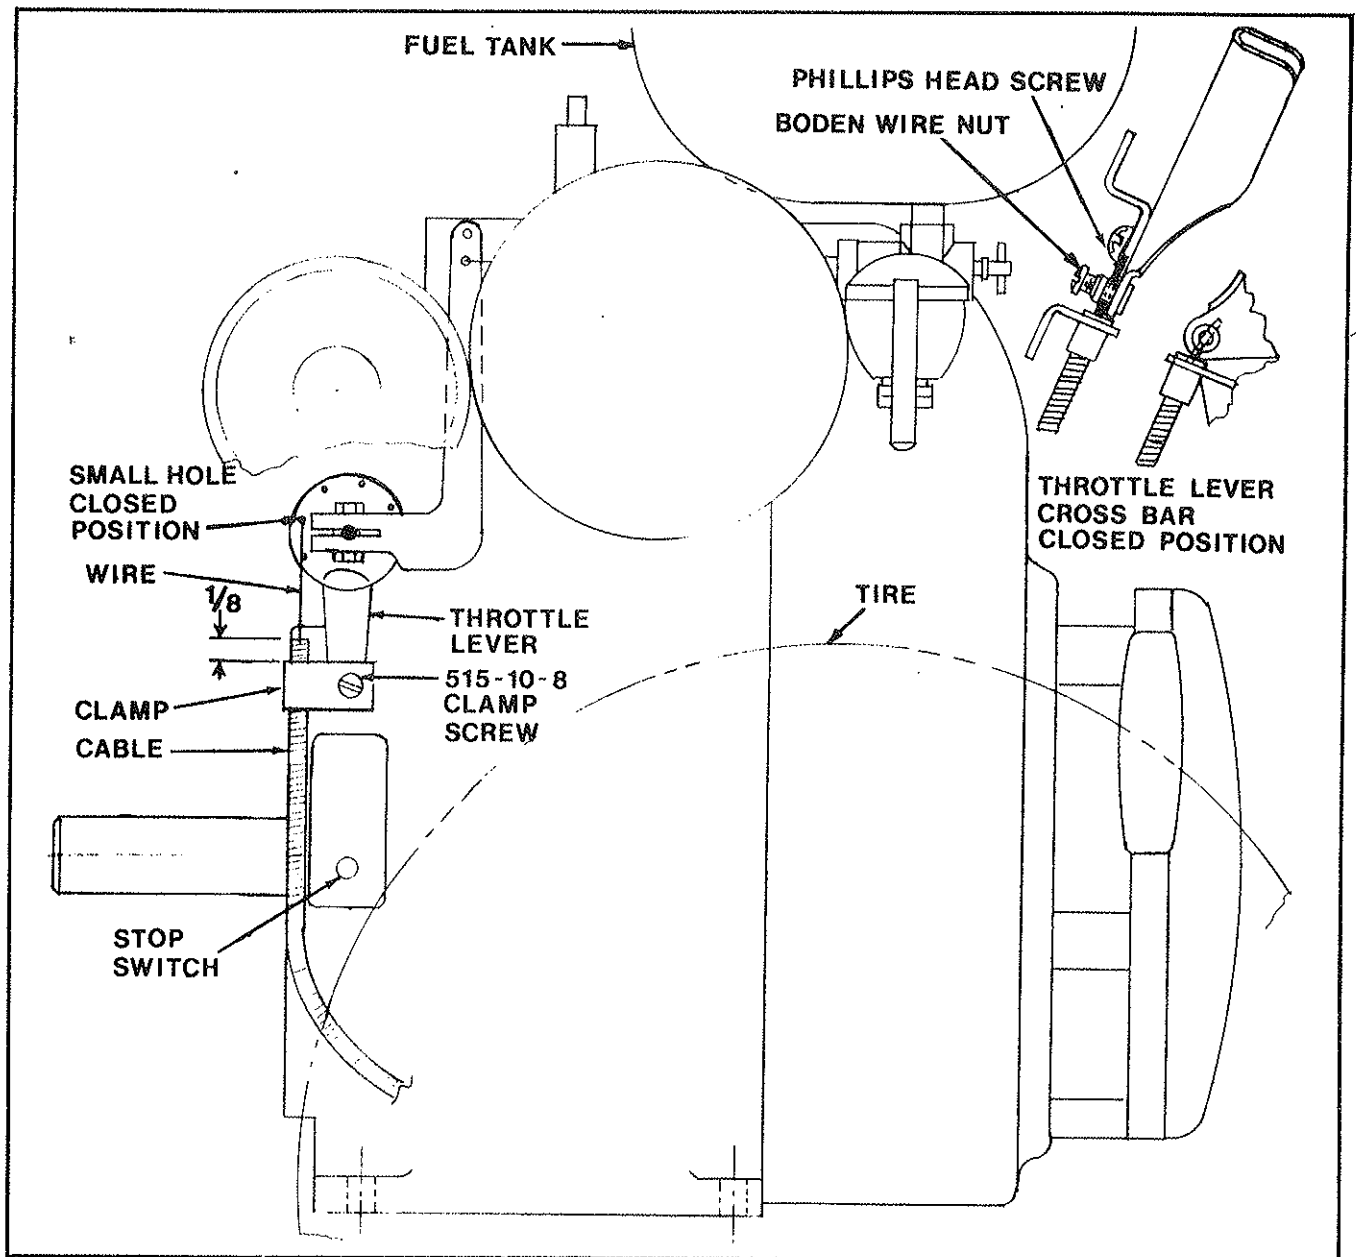

Figure 4. Kohler Engine Throttle Hook-up
A. Insert end of wire into small hole in throttle control lever on cross bar. The cable is attached to the throttle control lever bracket. At the lower end of throttle assembly, insert end of wire into small hole in throttle lever on engine as shown in figure 4.
D. Check travel of throttle lever and adjust as follows. With the throttle lever on engine in the closed position, the lever on handle should be as shown in Fig. 4. Next, tighten boden wire nut on throttle lever to prevent slipping on throttle wire. Throttle assembly is now ready to test.